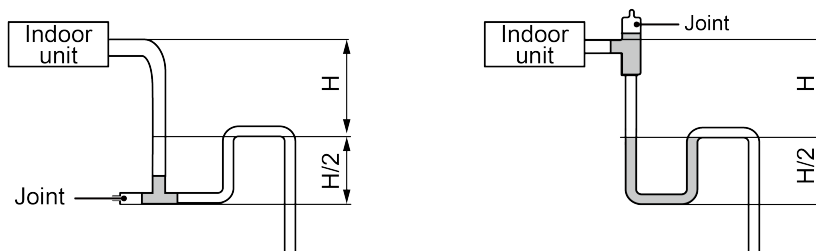

Fig.4.3.5
- (5) Install the trap as shown in following Fig.4.3.5.